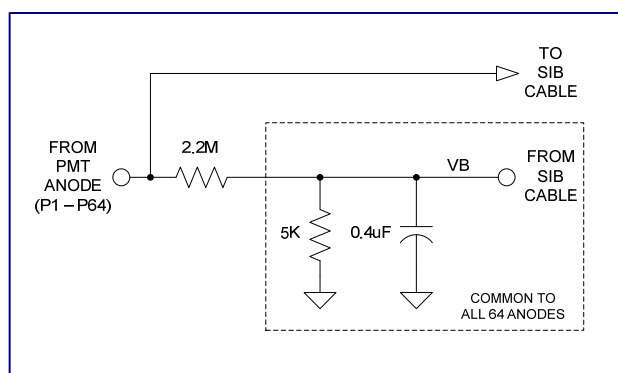

Figure 4: Anode Circuit
The 64 anode signals (P1 – P64) from the H7546B PMT are routed directly on the SIB164 to two specialized connectors referred to as sensor interface board (SIB) connectors. Anodes P1 to P32 route to SIB connector J1 and anodes P33 to P64 route to SIB connector J2. Each SIB connector mates to a proprietary low-noise, high density SIB cable assembly that carries the 32 anode signals on coaxial connections to a Vertilon PhotoniQ 64 channel PMT data acquisition system. Depending on the required speed and dynamic range, either a PhotoniQ IQSP482 high dynamic range system or an IQSP582 high speed system can be used as the main data acquisition unit. To minimize the possibility of damage due to ESD, the H7546B anodes each have a 2.2 Mohm shunt resistor to a common low impedance point. This point is biased at a voltage equal to the bias voltage (VB) of the charge integrating transimpedance amplifiers on the PhotoniQ so that the anodes can be DC coupled to them. Figure 4 below illustrates the equivalent circuit as seen by each PMT anode.